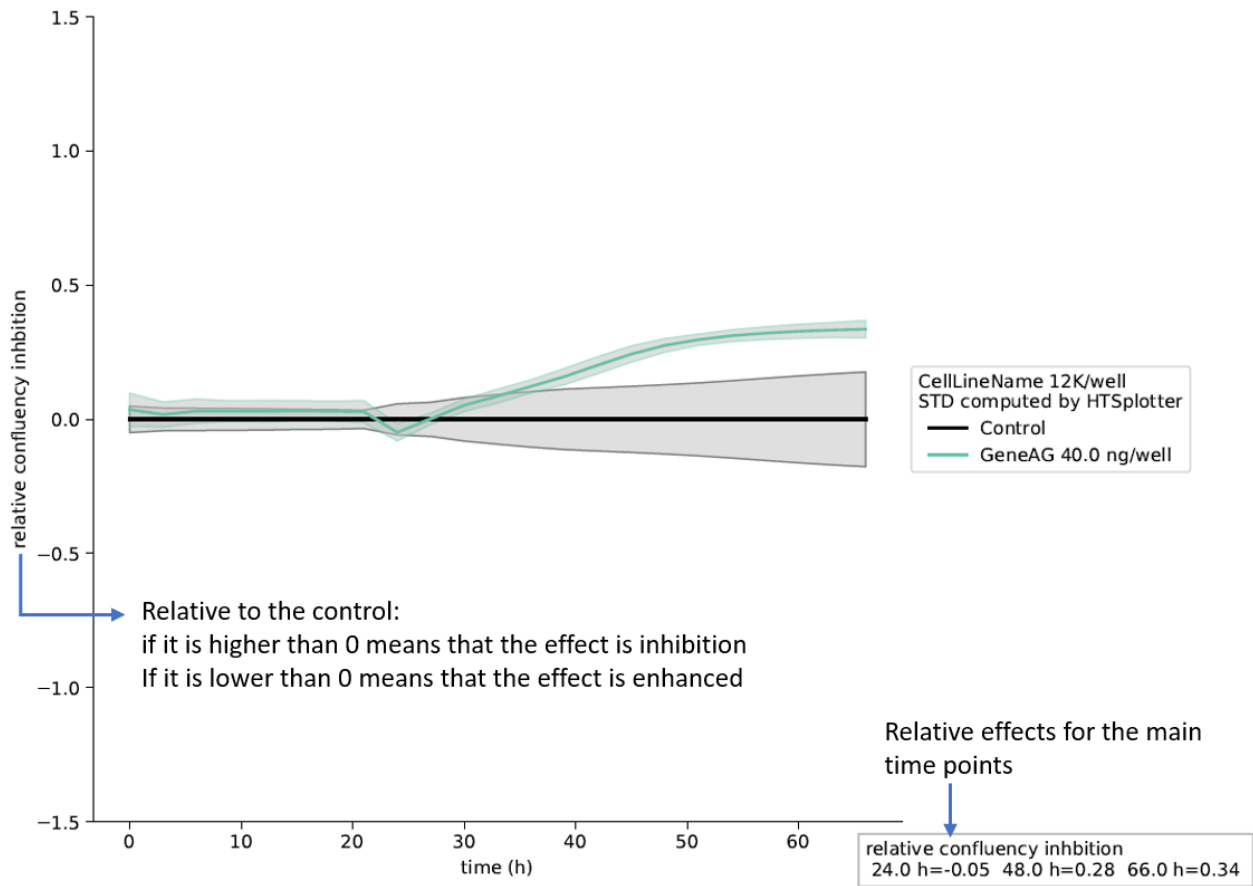

Figure 37: XY-plot showing the raw data for control and GeneAG conditions.
- Raw data plotted as XY-plot, for each perturbagen Figure 37.